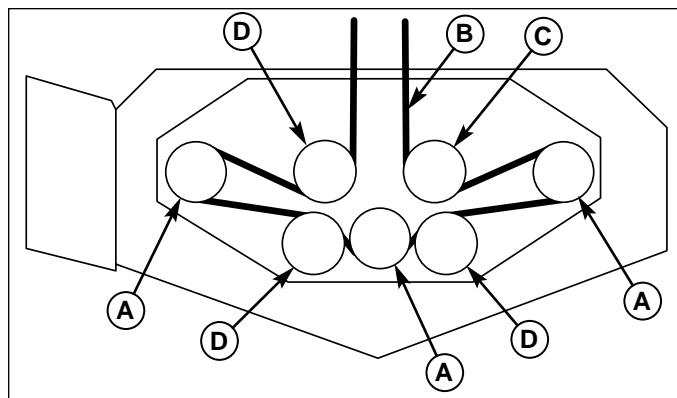

Figure 33. Mower PTO Belt Routing
6. Remove the old belt and replace with a new one. Make sure the V-side of the belt runs in the pulley grooves (Figure 33).